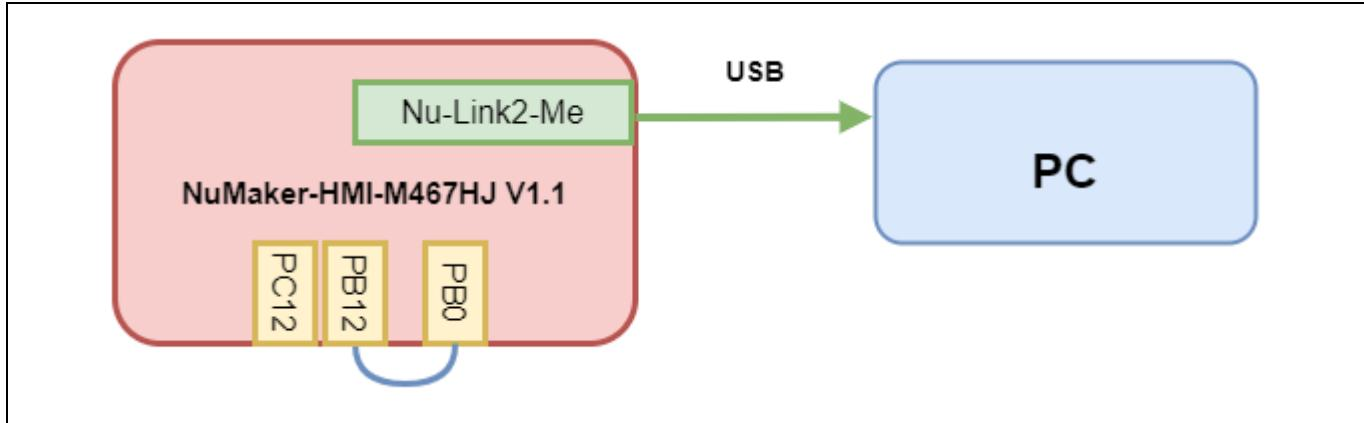

Figure 3-1 Connection Diagram of Numaker-HMI-M467HJ and PC
- NuMaker-HMI-M467HJ connects to PC via USB cable, as shown in Figure 3-1.